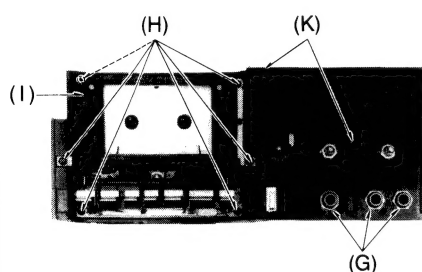
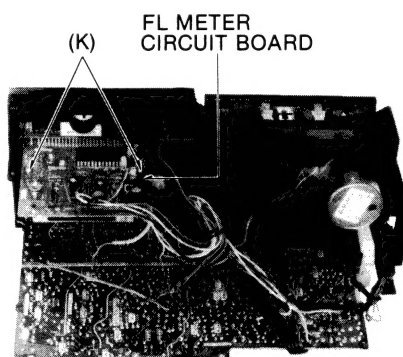

Fig. 4
Fig. 5
<p>B Head azimuth adjustment</p> <p>Condition:</p> <ul style="list-style-type: none"> <li>• Playback mode</li> <li>• Normal tape mode</li> </ul> <p>Equipment:</p> <ul style="list-style-type: none"> <li>• VTVM</li> <li>• Oscilloscope</li> <li>• Test tape (azimuth) ... QZZCFM</li> </ul>	<p>L-ch/R-ch output balance adjustment</p> <ol style="list-style-type: none"> <li>1. Make connections as shown in fig. 4.</li> </ol>  <p style="text-align: right;">Fig. 4</p> <ol style="list-style-type: none"> <li>2. Playback the 8kHz signal from the test tape (QZZCFM). Adjust screw (B) in fig. 5 for maximum output L-ch and R-ch levels.</li> </ol> <p>When the output levels of L-ch and R-ch are not at maximum at the same time, readjust as follows.</p> <ol style="list-style-type: none"> <li>3. Turn the screw shown in fig. 5 to find angles A and C (points where peak output levels for left and right channels are obtained). Then, locate the angle B between angles A and C, i.e., a point where L-ch and R-ch output levels come together at maximum. (Refer to figs. 5 and 6.)</li> </ol> <p>L-ch/R-ch phase adjustment</p> <ol style="list-style-type: none"> <li>4. Make connections as shown in fig. 7.</li> <li>5. Playback the 8kHz signal from the test tape (QZZCFM). Adjust screw (B) shown in fig. 5 so that pointers of the two VTVMs swing to maximum and a waveform as illustrated in fig. 8 is obtained on the oscilloscope.</li> </ol>  <p style="text-align: right;">Fig. 5</p>  <p style="text-align: right;">Fig. 6</p>  <p style="text-align: right;">Fig. 7</p>  <p style="text-align: right;">Fig. 8</p>
<p>ⓔ Playback gain</p> <p>Condition:</p> <ul style="list-style-type: none"><li>• Playback mode</li><li>• Normal tape mode</li></ul> <p>Equipment:</p> <ul style="list-style-type: none"><li>• VTVM    • Oscilloscope</li><li>• Test tape... QZZCFM</li></ul>	<div><div><div><div>1. Test equipment connection is shown in fig. 4.</div><div>2. Playback standard recording level portion on test tape (QZZCFM 315Hz), and using VTVM measure the output level at LINE OUT.</div><div>3. Make measurement for both channels.</div></div><div><div style="border: 1px solid black; padding: 5px; text-align: center;">Standard value: 0.4V ± 2dB [around 0.42V: at test points TP5 (L-CH) and TP6 (R-CH)]</div></div><div><p>Adjustment</p><div>1. If measured value is not within standard, adjust VR1 (L-CH), VR2 (R-CH) (See fig. 2 on page 4).</div><div>2. After adjustment, check "Playback frequency response" again.</div></div></div></div>